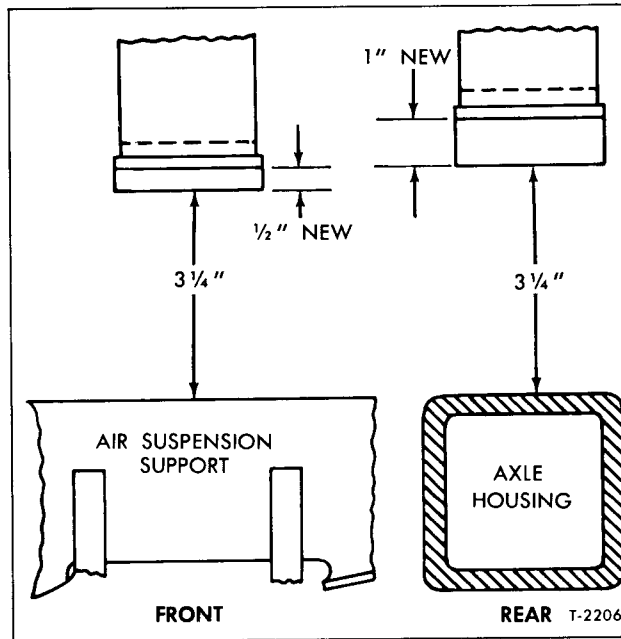

Figure 3—Normal Ride Height Clearance
Ride height measurements are taken between axle bumpers and top of axle housing as shown in figure 3.
bumpers (fig. 3). If coach is left standing for extended periods without air pressure in the air suspension system, the weight of the body on the axle bumpers may cause the bumpers to take permanent set in a flattened condition. Original thickness of new bumpers is shown in figure 3. If bumpers are flattened to less than the dimension shown, an equal amount should be added to the clearance specified to maintain normal ride height.
7. Position each end of axle by raising or lowering jacks to provide a clearance of 3-1/4" (normal ride height) between axle bumper and contact surface on suspension support (fig. 3). Refer to "Normal Ride Height" in "Ride Height Check and Adjustment" earlier in this section. With axle in normal ride height position, tighten radius rod cap screws and anchor bolt lock nuts to torque listed in "Specifications."
12. Raise coach and remove blocks from under body. Lower vehicle to floor and remove jacks. Build up air pressure in system to normal operating pressure. Wait a few minutes for air to flow into suspension system, then check clearance between axle bumpers and suspension supports (fig. 3). If clearance is 1/8" more or less than 3-1/4" adjust overtravel lever on height control valve as necessary to obtain this dimension. Refer to "Ride Height Check and Adjustment" earlier in this section. Make sure lever adjusting screw is tight when adjustment is completed.
6. Raise or lower jacks to provide an axle clearance of 3-1/4" (normal ride height) between rubber axle bumpers and axle as shown in figure 3. Refer to "Ride Height Check and Adjustment" earlier in this section. With axle in normal ride height position, tighten radius rod cap screws and anchor bolt lock nuts to torque listed in "Specifications" at end of this section.